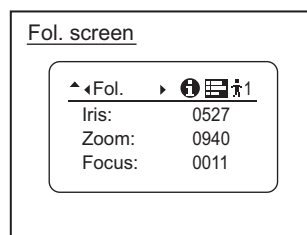

Fig1-10
8. Fol. screen [Icon] (See Fig. 1-10 below)